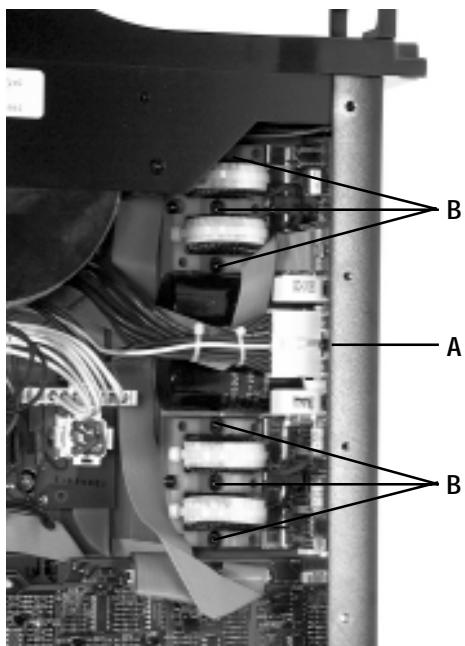

Figure 5.3 Output PWA Screws
3. Using a TX15 bit, remove the screw located at the center-top of the assembly. See Figure 5.3. **Item A**.
4. Using a TX20 bit, remove the six screws located by the four large coils on the assembly. See Figure 5.3. **Item B**